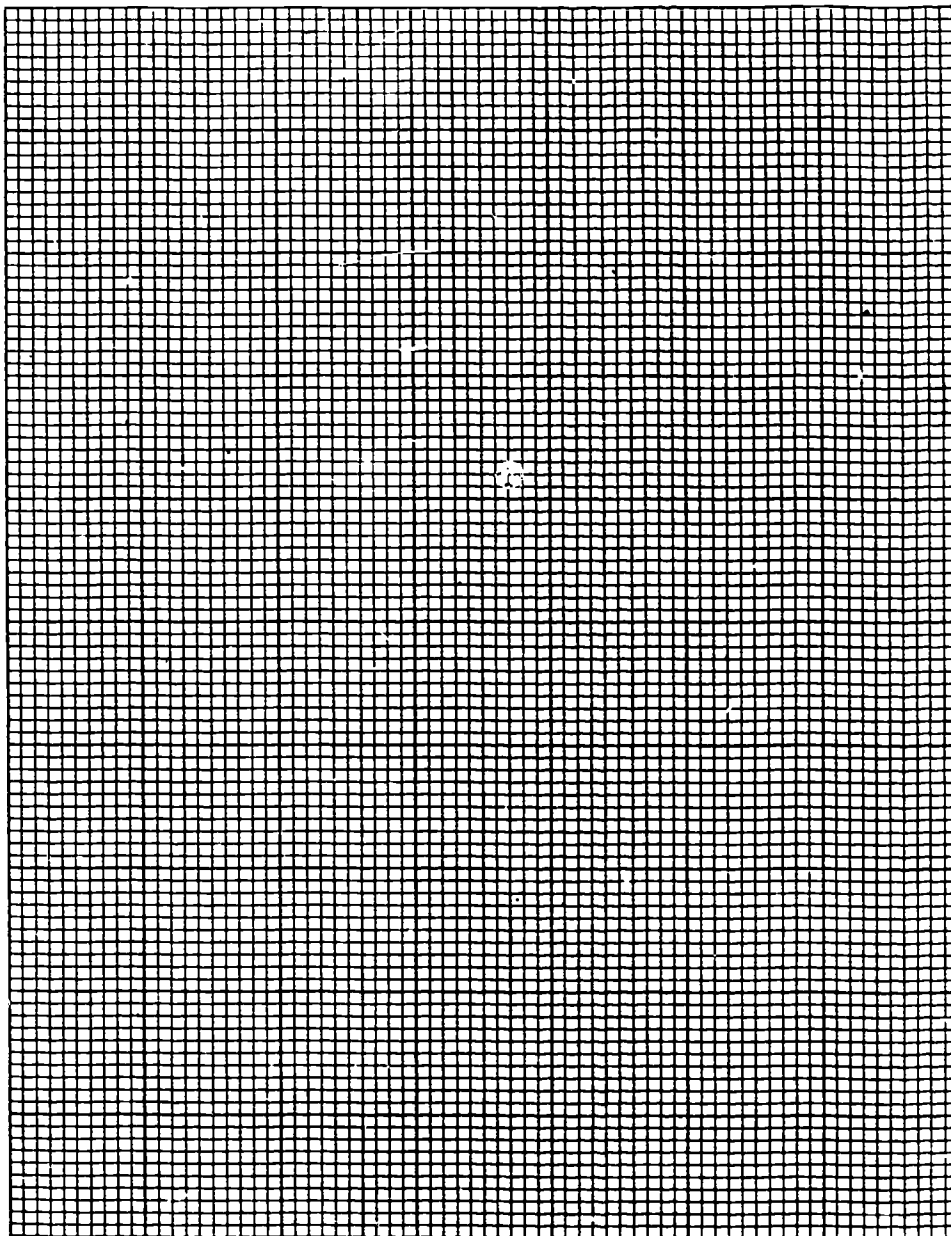

Figure 1-9. Objective A10, exercise 1.
1. The following is a list of weights, to the nearest point, of 40 airmen assigned to Imagery Production Laboratory. Using the graph paper (fig. 1-9), as appropriate, construct: